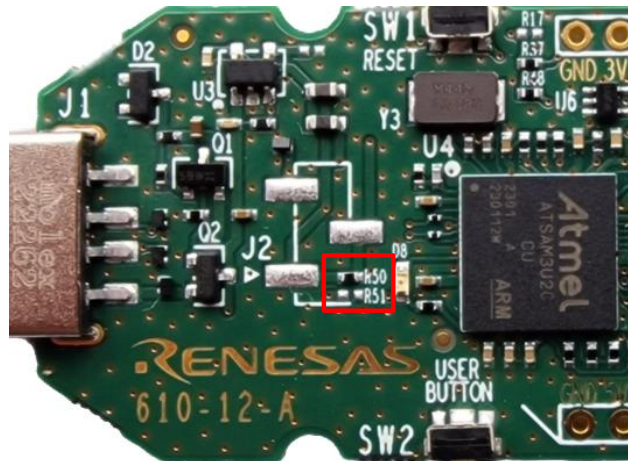

Figure 28. Resistors R50 and R51
3. Remove R50 and place R51 or move the jumper from position 1-2 to position 2-3 if pin header J2 is installed (Figure 28).